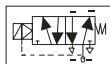

FIGURE 2
2. Please note that although it is hard to depict in the photos, there are clear markings on the valve that help position the selector gasket (left gasket in picture) to achieve the desired valve function. Should a four way function be desired the selector gasket is merely rotated 180 degrees. (Figure 1 & 2). Fig 1 shows 3 way function (spring return actuators) and Fig 2 shows 4 way function (double acting actuators)